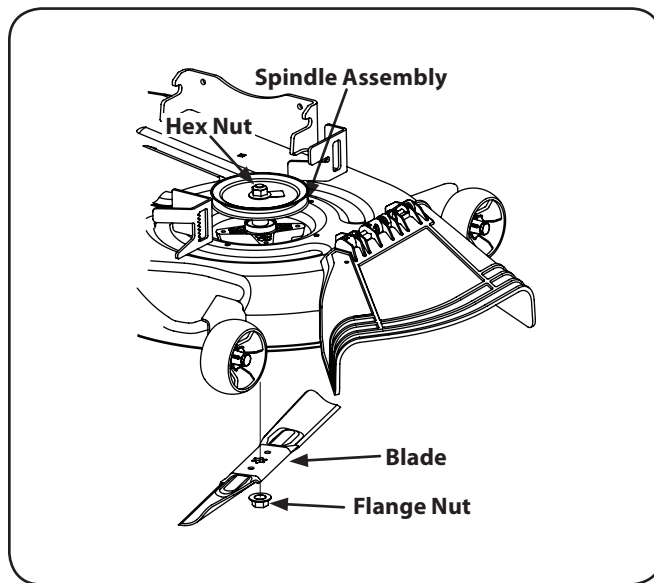

Figure 7-10
2. Use a wrench to hold the hex nut on top of the spindle assembly when loosening the hex nut securing the blade. See Fig. 7-10.
2. Remove the hex washer screws securing the belt covers to the deck and remove the belt from the spindle pulleys. Refer to Fig. 7-10.